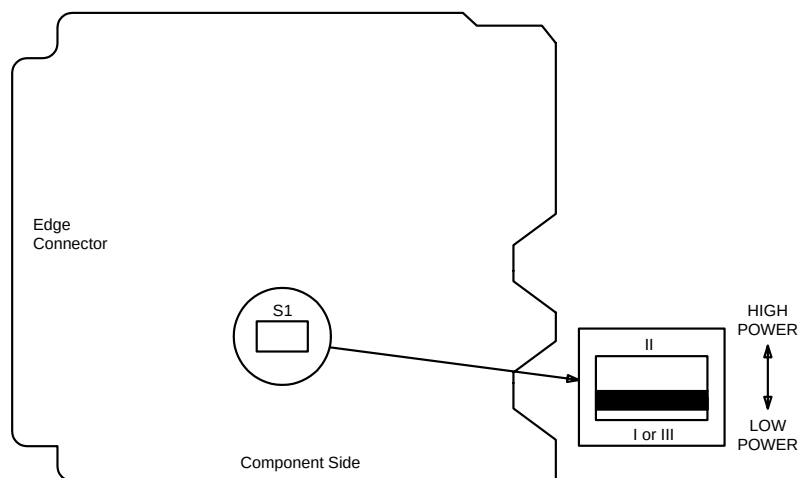

Figure 3. 21G/21G-U OLIU Option Switch
21. Refer to Table I and Figure 3 and set the **HIGH/LOW POWER** option switch on replacement **21G/21G-U OLIU** to proper setting.